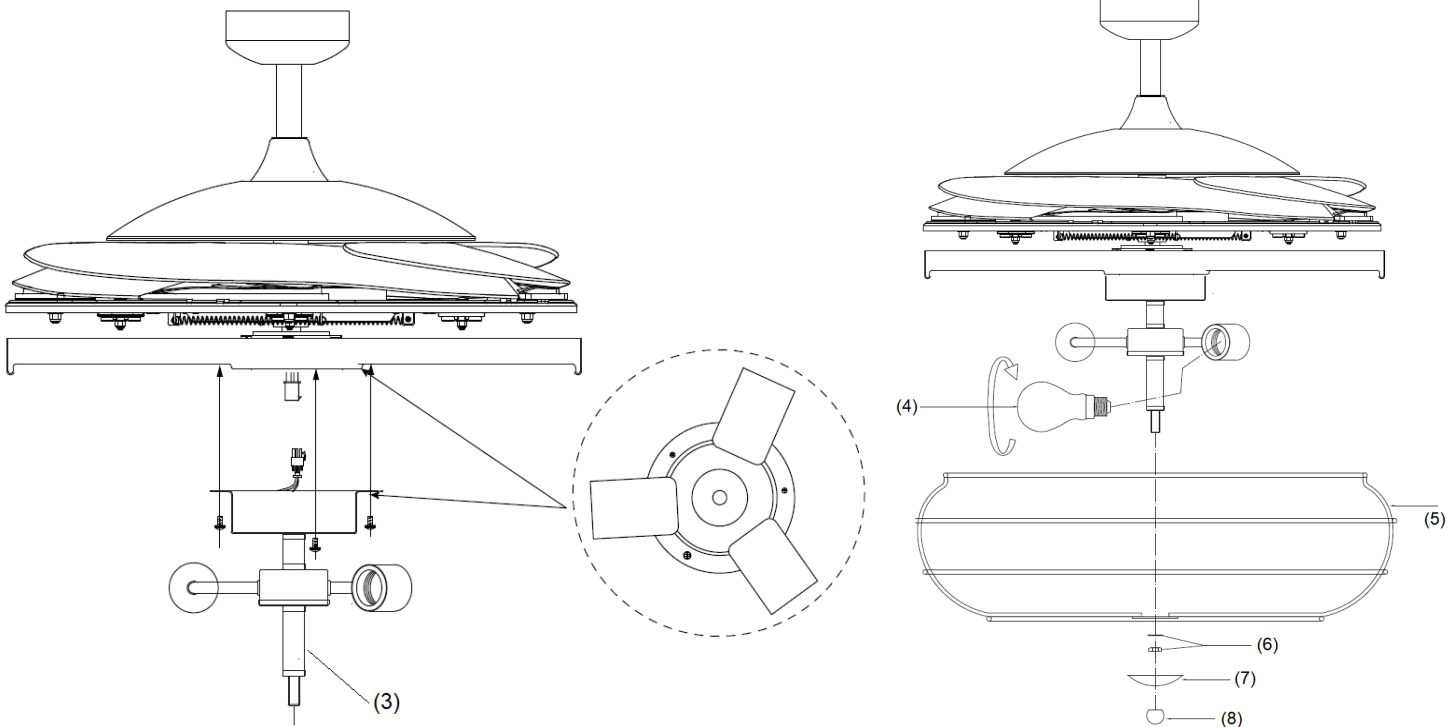

Fig. 8
4. Connect the quick connector to the lamp holder part (3). (Fig. 8)
5. Secure the lamp-holder part (3) to the light kit plate by tightening the 3 screws. Do not over-tighten.
6. Install the globes (4) to the lamp holders. Do not exceed the maximum power rating.
7. Install the lamp shade(5) followed by the washer and the nut (6). Tighten the nut (6).
8. Install the decorative cover (7) by tightening the nut (8).